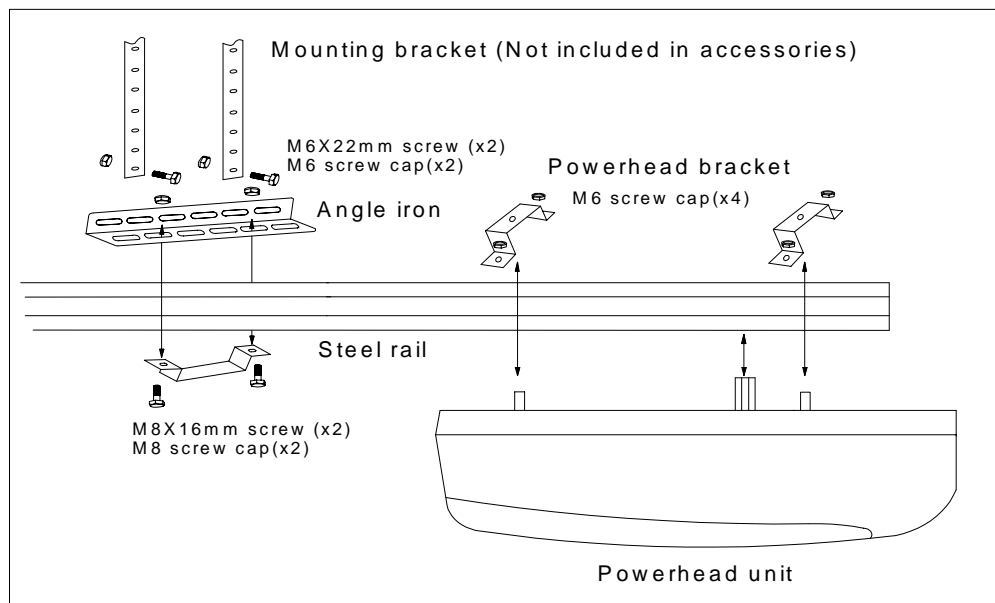

Fig.6
- Fix the rail to ceiling with mounting brackets (not included in accessories) and angle iron see Fig.6, make sure that the rail is level. If necessary, Check the door does not touch any part of the rail by opening or closing it manually.